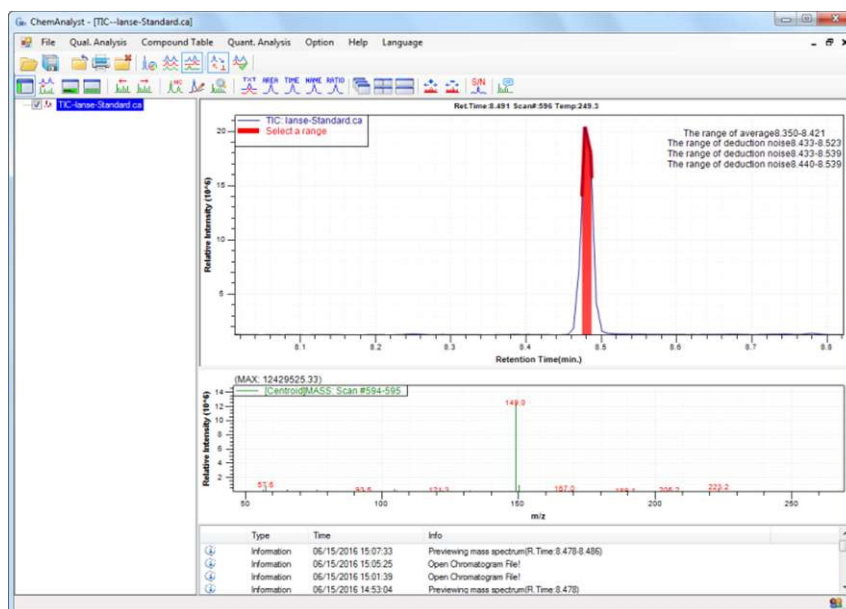

Figure 7-8 Check Average Spectrum
- (5) Press the Shift key and hold down, click the mass spectrogram or hold the left mouse button and drag for a short distance, the mass chromatogram without background will be seen, as shown in Figure 7-8.